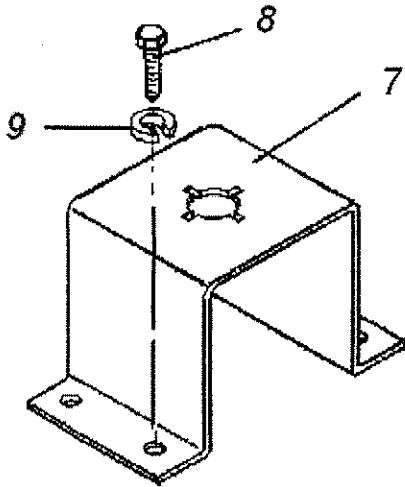

Figure 3
- D. Floor mounting is accomplished using Bracket (7), Hex Head Self-Tapping Screws (8) and Lockwashers (9). See Fig. 3.